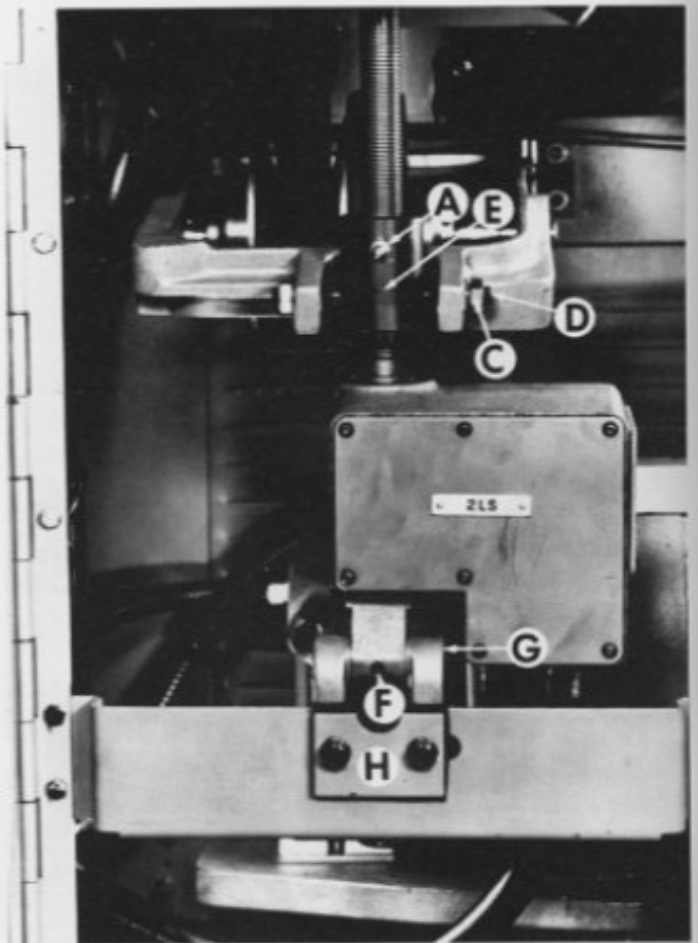

Figure 13
Grease at fitting "A", Figure 13, with Houghton Absorbed Oil #L-4½. Grease is sufficient when forced out of slot in fitting "A". Lubricate once a month or more often if necessary. **FOR PROPER LUBRICATION OF DRIVE, RUN THROUGH COMPLETE SPEED RANGE DAILY.** The main drive motor and the speed change motor bearings are grease packed for life and require no further lubrication.
7. Loosen two nuts "C", Figure 13, and loosen pivot screws "D" to clear feed screw nut "E".
1. Place drive in pedestal and secure with pin "G", Figure 13, in mounting bracket. Tighten set screw "F". **DO NOT MOUNT FEED SCREW NUT "E"**.
Make corrections, **IF NECESSARY**, by loosening pivot screws "D", Figure 13, and rotating feed screw nut accordingly. Feed screw nut can be turned 180° by interchanging grease fitting and pipe plug. Run spindle after each adjustment, allowing spindle to coast to a stop, to allow belts to equalize tension.
5. Loosen two nuts "C", Figure 13, and loosen pivot screws "D" to clear feed screw nut "E".
1. Loosen two nuts "C", Figure 13, and loosen pivot screws "D" to clear feed screw nut "E".